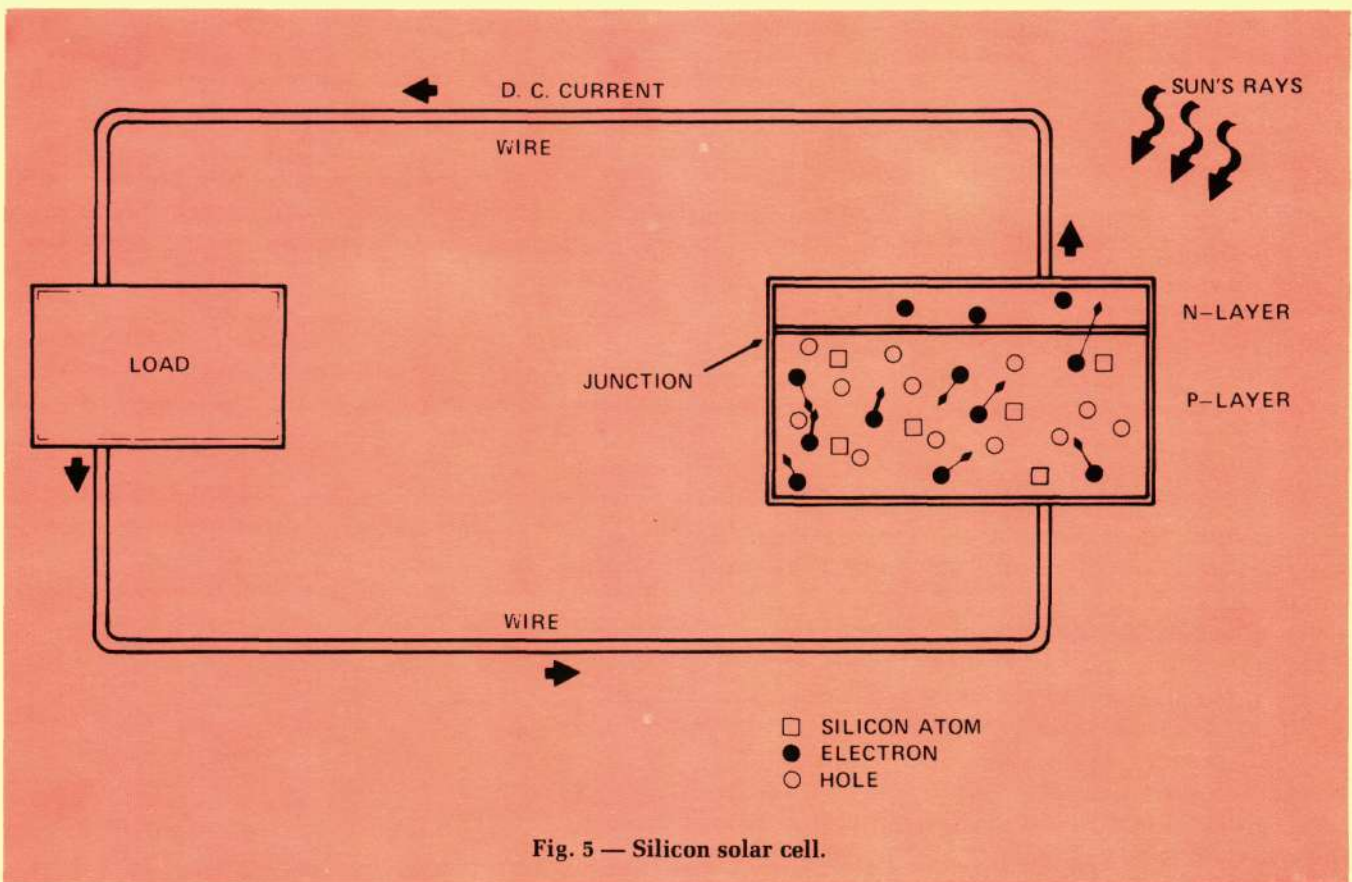

Fig. 5 — Silicon solar cell.
Figure 5 shows a typical two-layer construction of a solar cell. The n-layer is made of silicon doped (made impure) with phosphorus, while the p-layer has silicon doped with boron. When the sunlight strikes the n-layer, electrons are "energized". Movement of electrons then occurs with electrons coming in from the p-layer to fill the void created by the movement of electrons in the n-layer. This sets up an electrical current from the cell to the load. Since only a direct current (DC) is developed, a converter is needed if alternating current (AC) is required.